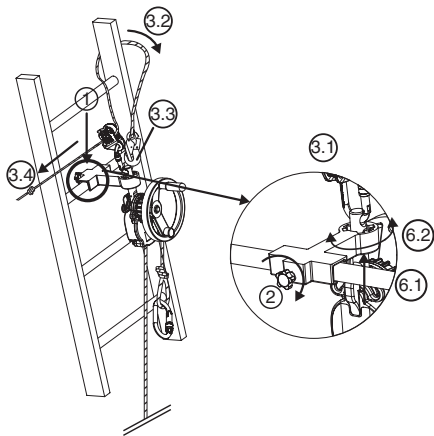

Fig. 7
6.3.3. derope™ UP K descender (Fig. 7)
1. Place the small support bracket on the ladder bar in the position required to carry out the rescue operation above the person to be evacuated (Fig.7, 1).
2. Tighten the locking pin located at the back of the support bracket using the clamping knob (Fig.7, 2).
- Secure the connector of the adjustment device LCM 05 in the hole at the top of the fastening pin (Fig.7, 3.1).
- Run the belay lanyard around the ladder bar located above the bracket, going around one of the ladder uprights (Fig.7, 3.2).
- Connect the belay lanyard connector in the connector of the adjustment device LCM 05 (Fig.7, 3.3).
- Tension the belay lanyard by pulling on the free strand (Fig.7, 3.4).
6. Align the derope™ descender as may be required, modifying the position of the fastening pin in the indexing device (Fig.7, 6.1 – 6.2).